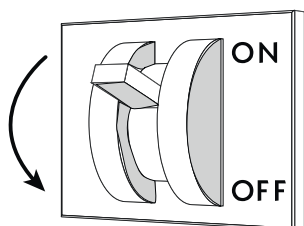

Fig. 56
- Disconnect the power supply to the cabinet using the wall-mounted main switch-disconnector ("Fig. 56").